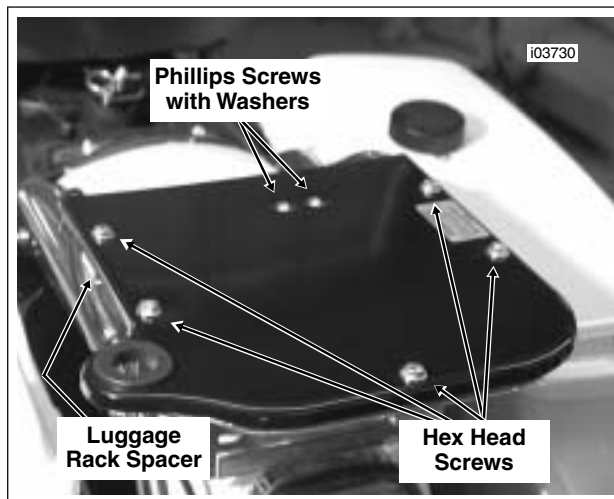

Figure 8-32. Remove Radio Tray and Hardware
1. See Figure 8-32. Remove the five hex head cap screws and two smaller Phillips screws (with washers) securing existing radio tray to mounting rail. Leave the two rectangular license plate spacers and set aside three remaining spacers. Discard screws and washers, but save nuts for installation later. Discard radio tray.